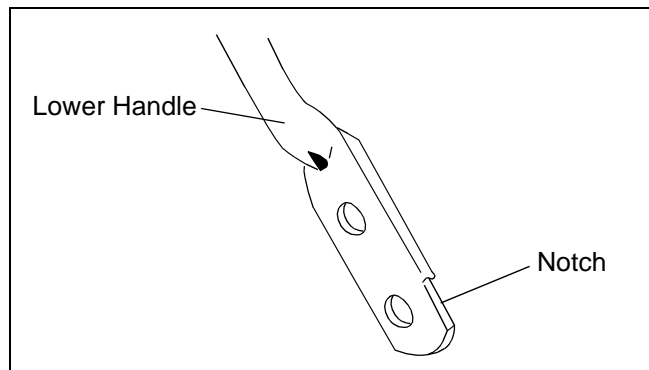

Figure 6
- Turn the lower handle around so the notch on the bottom of the lower handle is facing forward as shown in Figure 6. Reassemble, placing the bottom holes in the handle over the weld pins in the handle mounting bracket.